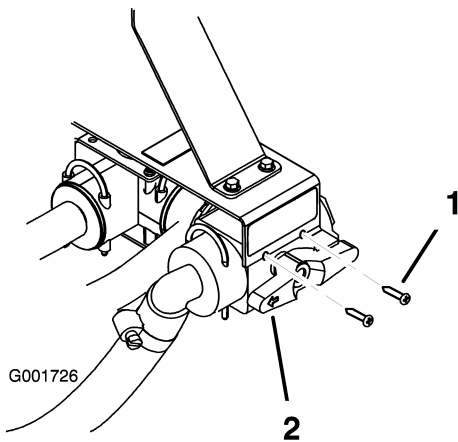

Figure 12
- Secure the new control valve to the bracket using two screws (Figure 12).